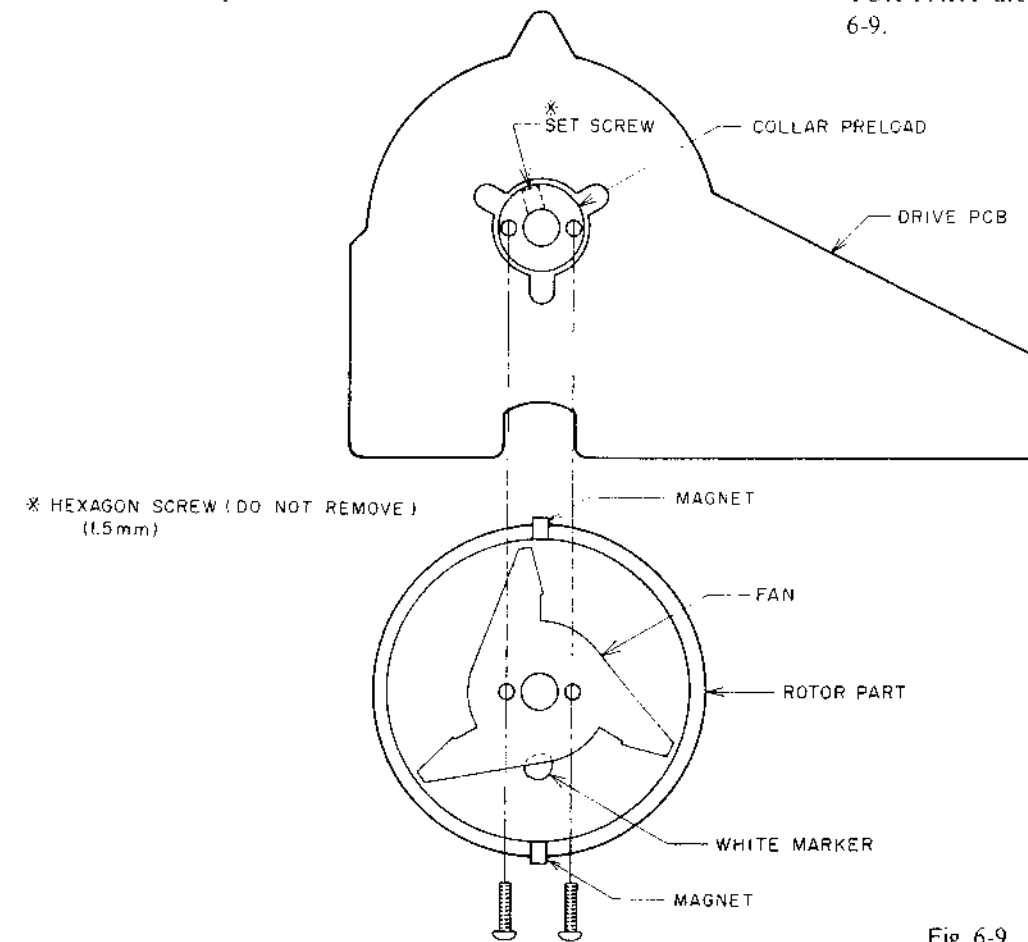

Fig. 6-9
**Caution:** The position of the PG magnets on the ROTOR PART are located as shown in Fig. 6-9.